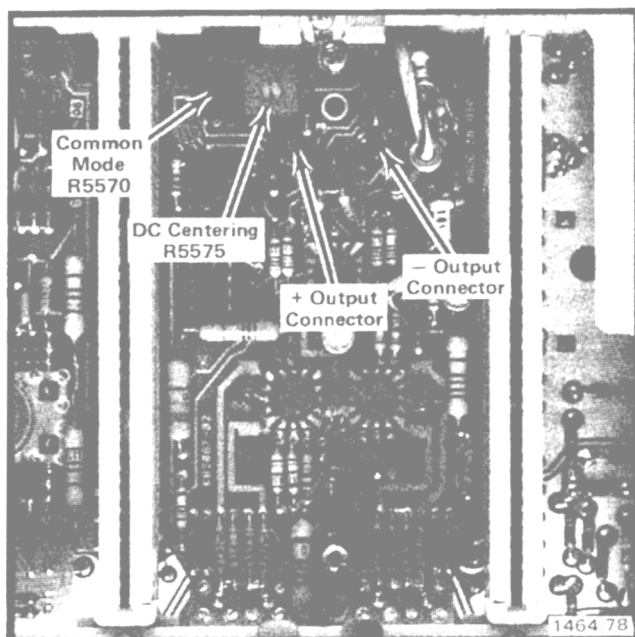

Fig. 2-5A. Location of Trigger Selector adjustments (SN B130525-above).
5. ADJUST—Trig Common Mode, R5570, for approximately zero volts,  $\pm 0.05$  volts. See Fig. 2-5A.
6. ADJUST—Trigger DC Centering, R5575, for a display DC level within 0.5 division (25 millivolts) of ground reference level in the LEFT, RIGHT, and ADD positions of the VERT MODE switch. See Fig. 2-5A for adjustment location.
- f. ADJUST—(SN B130525-SN B140584) Trigger DC Centering, R5575, for a display dc level within 0.5 division (25 millivolts) of ground reference level in the LEFT, RIGHT, and ADD positions of the VERT MODE switch. See Fig. 2-5A for adjustment location.